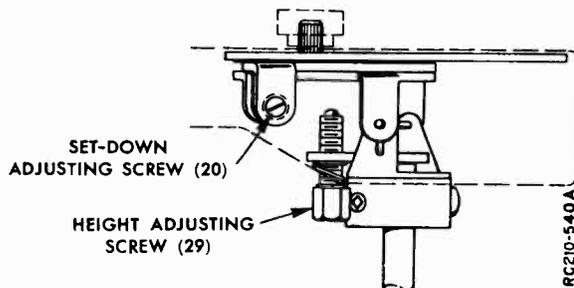

Figure 10. Arm Detail Showing Adjustments.
set-down point is governed by the set-down adjusting screw (20). (See figure 10.) The shoulder on the set-down arm (129A) holds the pickup arm at the set-down point until it is pushed back by the edge of the control plate engaging the set-down arm stud (129B). The pickup arm is then free and moves down toward the record starting groove.
**IMPORTANT:** This adjustment must be made with the record size selector knob (16) in the "10.12" position. Also, the head assembly must be in the position for 7-inch and 10-inch records.
Adjustment of the set-down point, for either 7-inch, 10-inch, or 12-inch records, is made by adjustment of the set-down adjusting screw (20), see figure 10. Screw (20) is accessible through hole in right side of pickup arm. When turning the record size selector knob (16) be sure to turn it all the way to avoid making the set-down adjustment at the wrong point, resulting in
With the record changer out of change cycle and the pickup arm clear of the turntable, adjust the lift adjusting screw (29) so that the needle rests approximately  $\frac{3}{8}$ " above the top of the changer pan. Turning screw (29) in raises the pickup arm; turning it out lowers the arm. See Figure 10.